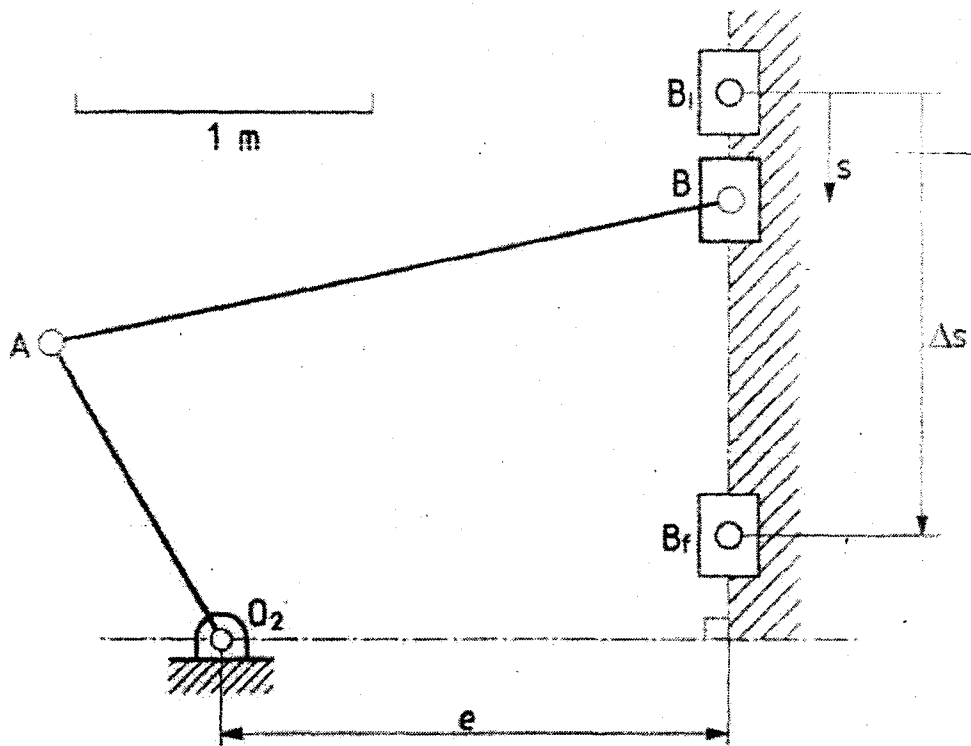

Figure 7
9. Refer to Figure 7, which shows the sketch of a slider-crank mechanism. Locate three Chebyshev's accuracy points in the interval B_i to B_f , which represents the total movement of the slider at B. Now graphically design the slider-crank mechanism O_2AB , so that the slider passes through the three accuracy points B_1 to B_2 and from B_2 to B_3 as the crank rotates through 26° (CCW) for each of these movements. Locate the crank-pin at A_1 and hence the crank-length O_2A_1 and the connecting-rod length A_1B_1 . Use the locations of O_2, B_i and B_f as indicated in Figure 7. (4 + 6)